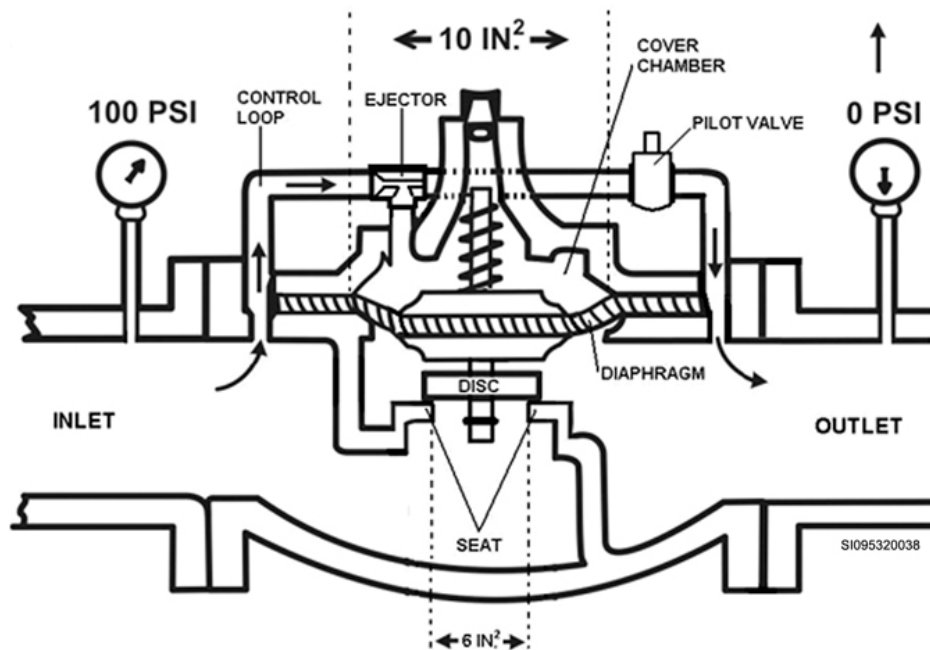

Figure 3-32. Automatic valve.
The operation of an automatic valve involves the controlled struggle between opposing forces. Those forces include fluid pressure being directed above and below the valve diaphragm as well as gravity and spring tension. Refer to figure 3-32 for the following discussion.
Some automatic valves will have inlet flow and pressure applied under the diaphragm (the outlet side of figure 3-32 becomes the inlet) instead of under the disc. This change of flow will not change the effects of the forces. Remember, if the upward force is greater than the downward force, the valve will open. If not, the valve will remain closed. In later volumes, you will see how the different components in the control loop will use these forces to enable these valves to be truly automatic.
6. Using figure 3-32, answer the following questions.